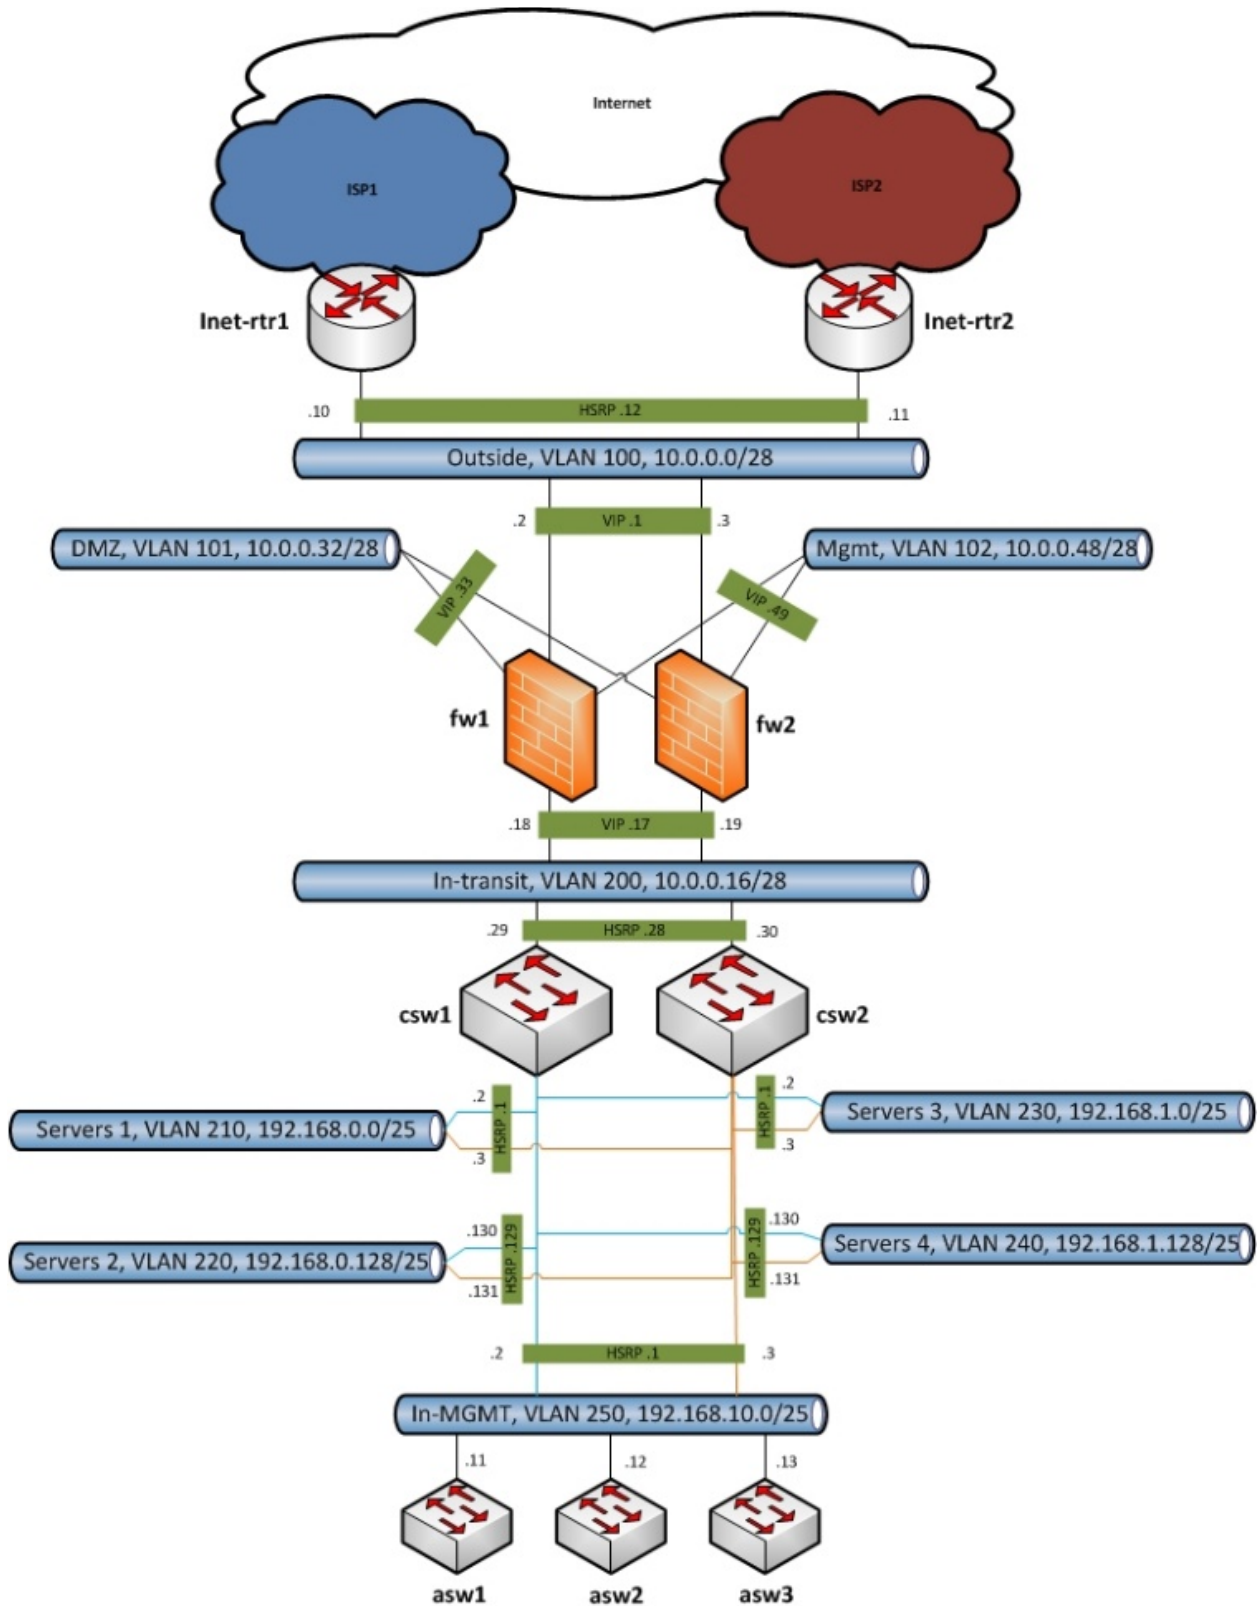
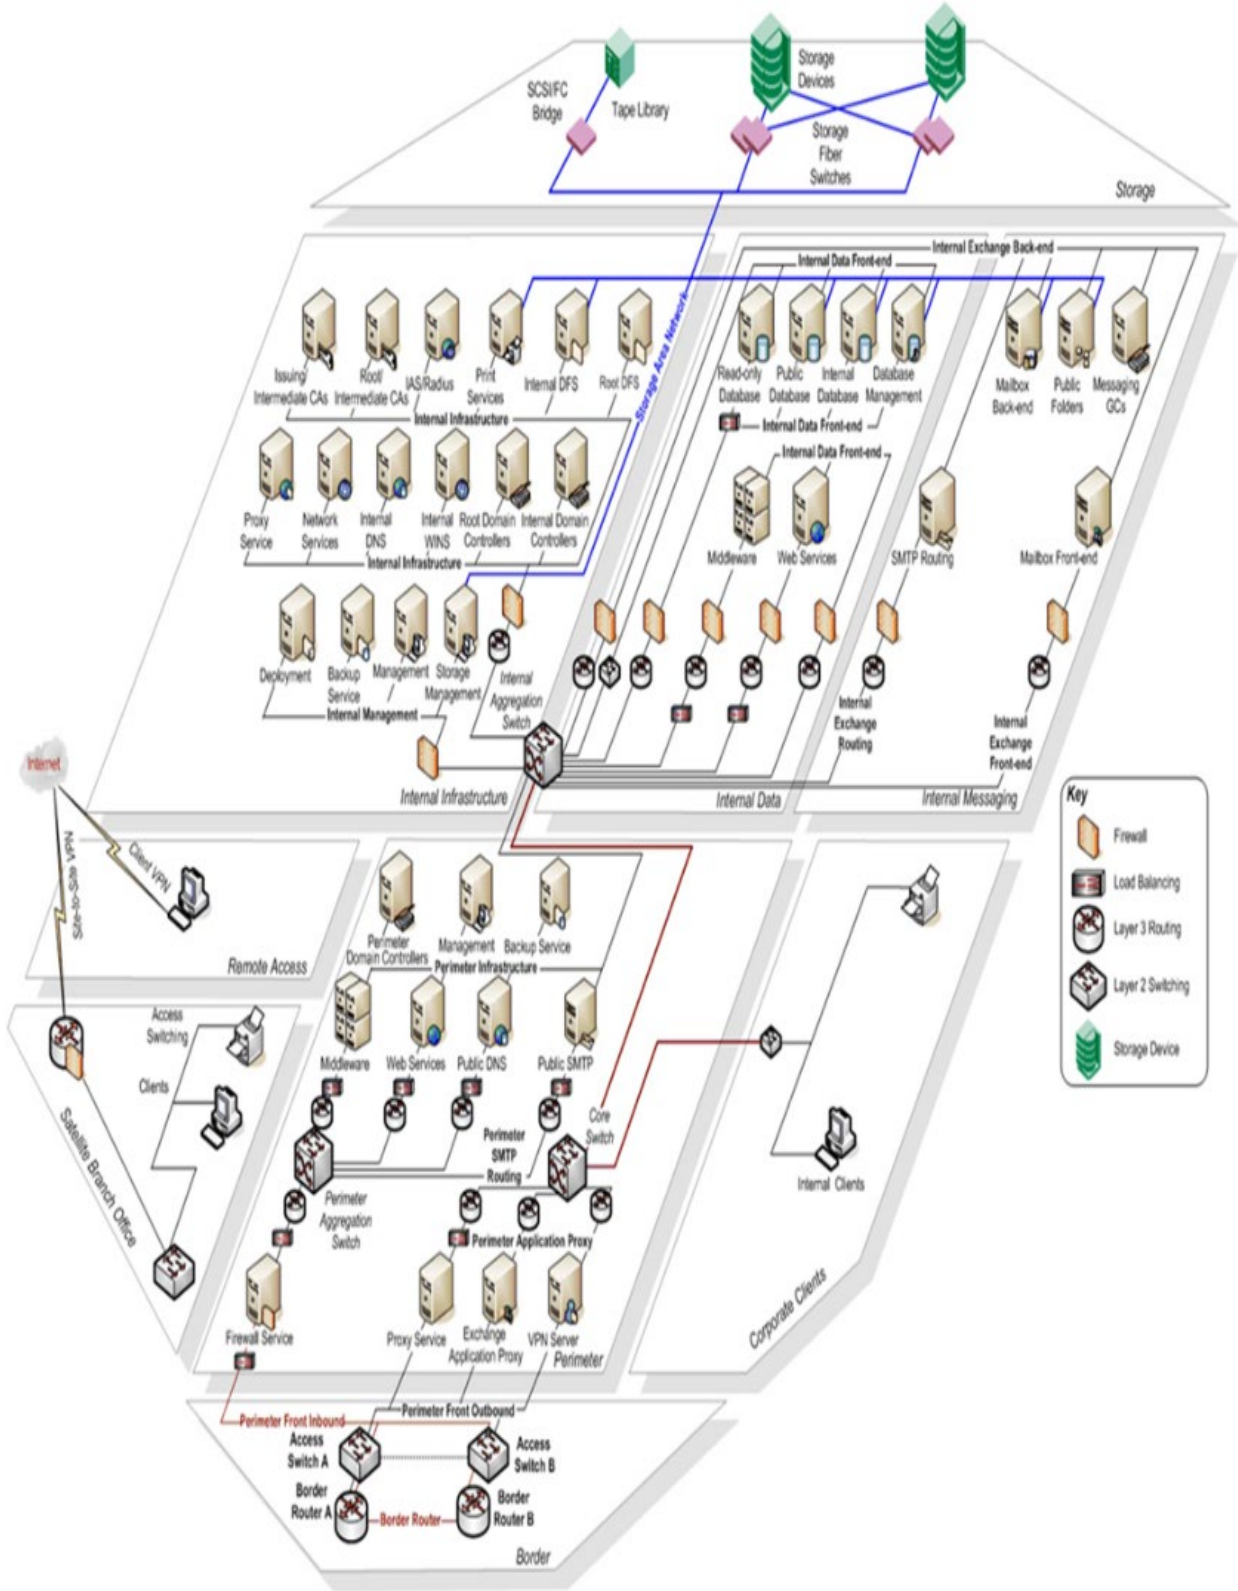

Figure 8: Layer 3 Diagram (Level 1)
Figure 9: Layer 3 Diagram (Level 2)
5. Final formatting. Adjust the placement, size, color, and other diagram attributes or elements until satisfied. **Figure 8** is an example of a layer 3 (level 1) network diagram; whereas, **Figure 9** is an example of a layer 3 (level 2) network diagram.